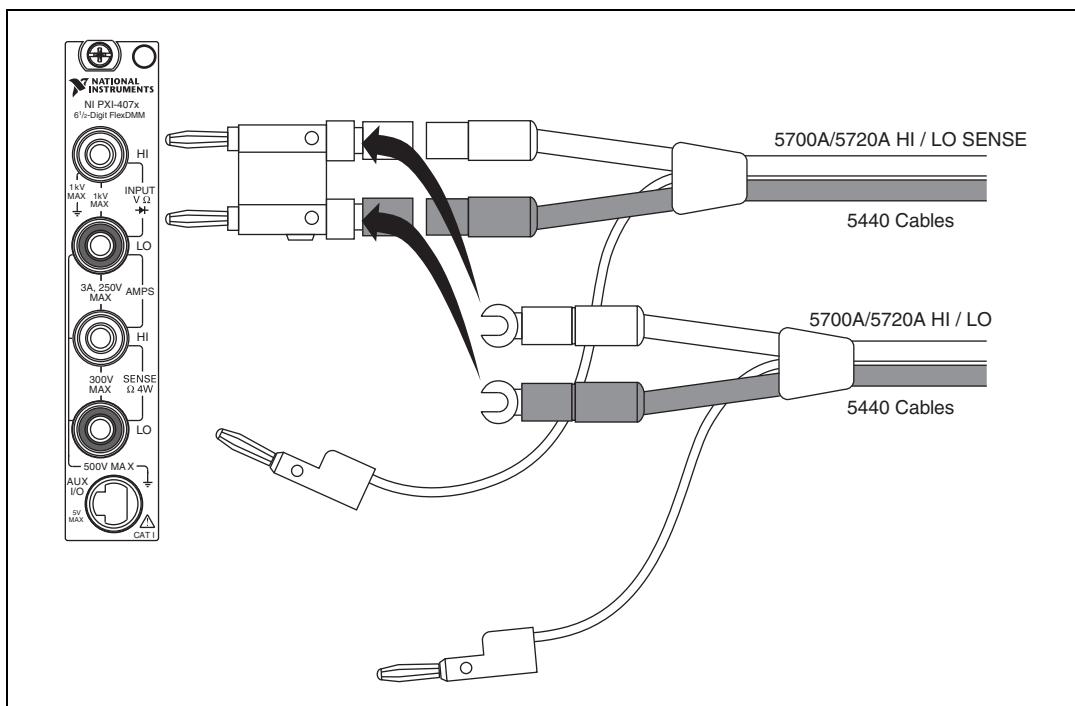

Figure 3. Cable Connections for 2-Wire Resistance
29. Connect the NI 4070/4072 and the Fluke 5700A/5720A calibrator using two sets of Fluke 5440 cables, a double banana plug, and two insulated, low EMF spade lugs, as shown in Figure 3. Table 10 lists the cable connections.